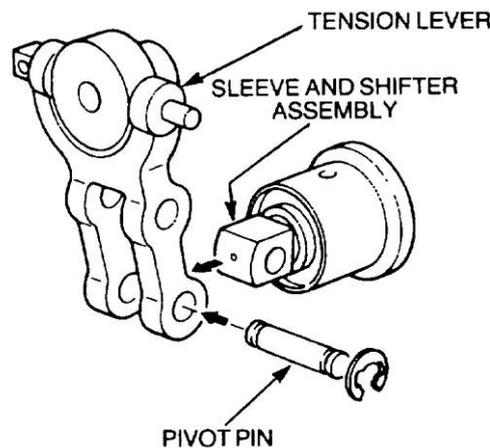

Figure 110 Connecting Sleeve and Shifter Assembly
- g. Position the tension lever over the shifter, align the pivot pin holes and install the pivot pin. Secure the pivot pin in place with new snap-rings (Figure 110). Install the torque cam control rod into the governor seat locating pin on the tension lever and adjust the nut until 3 to 6 mm of thread protrudes from the nut.